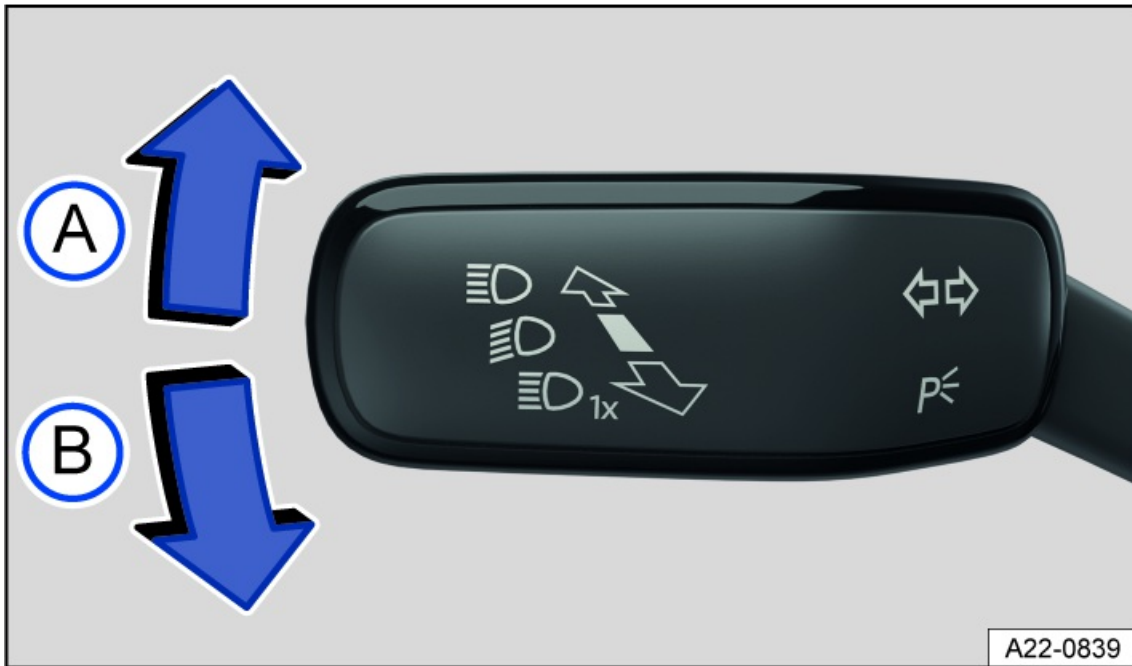

Fig. 77 On the left side of the steering column: turn signal and high beam lever.
2. Move the lever out of the center position into the desired position *fig. 77*.